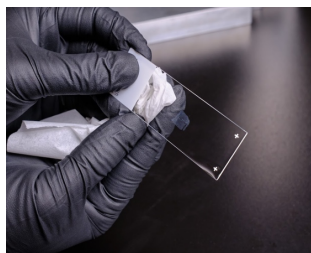
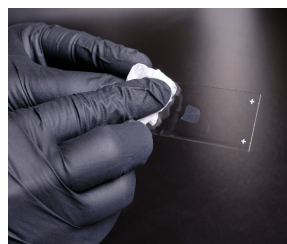

Figure 3.4a. Use a Kimwipe to dry excess buffer solution under the slide.
Figure 3.4b. Use a Kimwipe to carefully dry around the tissue sample.
3. Use a Kimwipe to absorb excess buffer carefully and gently under the slide (see Figure 3.4a) and around the tissue sample. (See Figure 3.4b.)